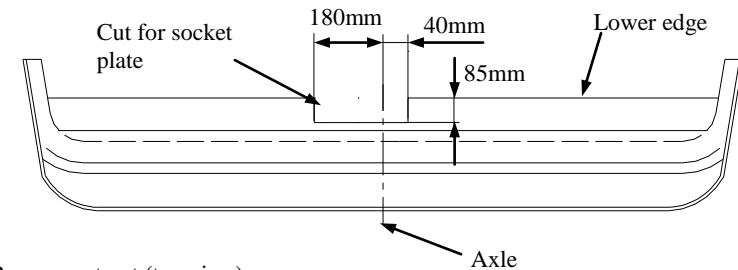

Fig. 2 Bumper cut out (top view)
3. Slide the bar (pos. 1) into the chassis and then fix with M10x40mm bolts (pos. 5) with big washers  $\varnothing 30 \times \varnothing 10,5 \times 2,5$ mm (pos. 8) from the towbar equipment. Choose holes depend on car type.
6. Fix the socket plate (pos. 3) as shown on the drawing.
7. Cut the bumper according to figure 2 and mount it to the car.